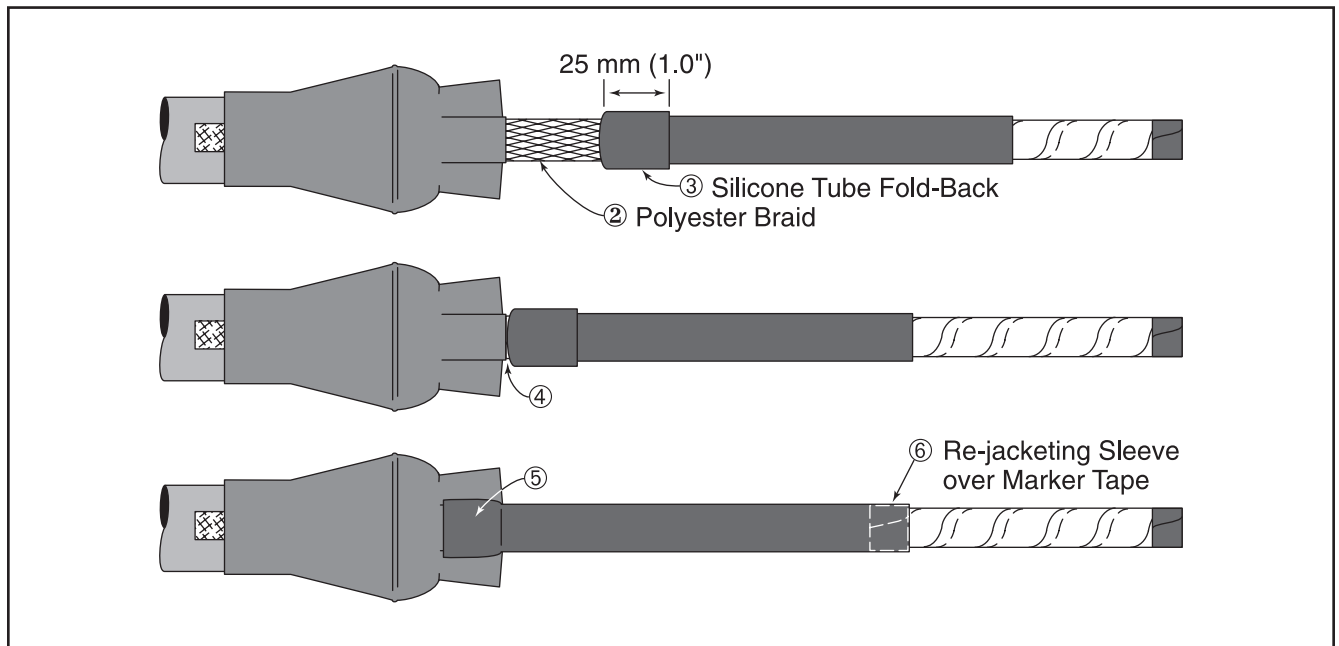

Figure 8
4.5 Slide re-jacketing sleeve until inner polyester braid is adjacent to breakout boot finger (② *Figure 8*).
4.6 Fold outer silicone tubing back on itself for 1" (25 mm) and trim off exposed polyester braid (③ *Figure 8*).
4.7 Slide re-jacketing sleeve assembly down until folded tube contacts edge of breakout boot finger (④ *Figure 8*).
4.8 Pull folded silicone tube section down onto breakout boot finger (⑤ *Figure 8*).
**Note:** Re-jacketing tube end should align with upper edge of installed marker tape (⑥ *Figure 8*). Minor tube adjustments can be made as needed.